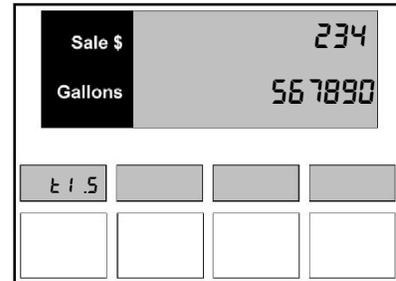

Figure 5.1 – Volume Amount
1. Press the **5** button and then the **Mode** button on the keypad. A volume amount appears in the sales/volume display as shown in *Figure 5.1*. The **t1** stands for the totalizer one total. The **.5** means the dispenser is in Menu Code 5.